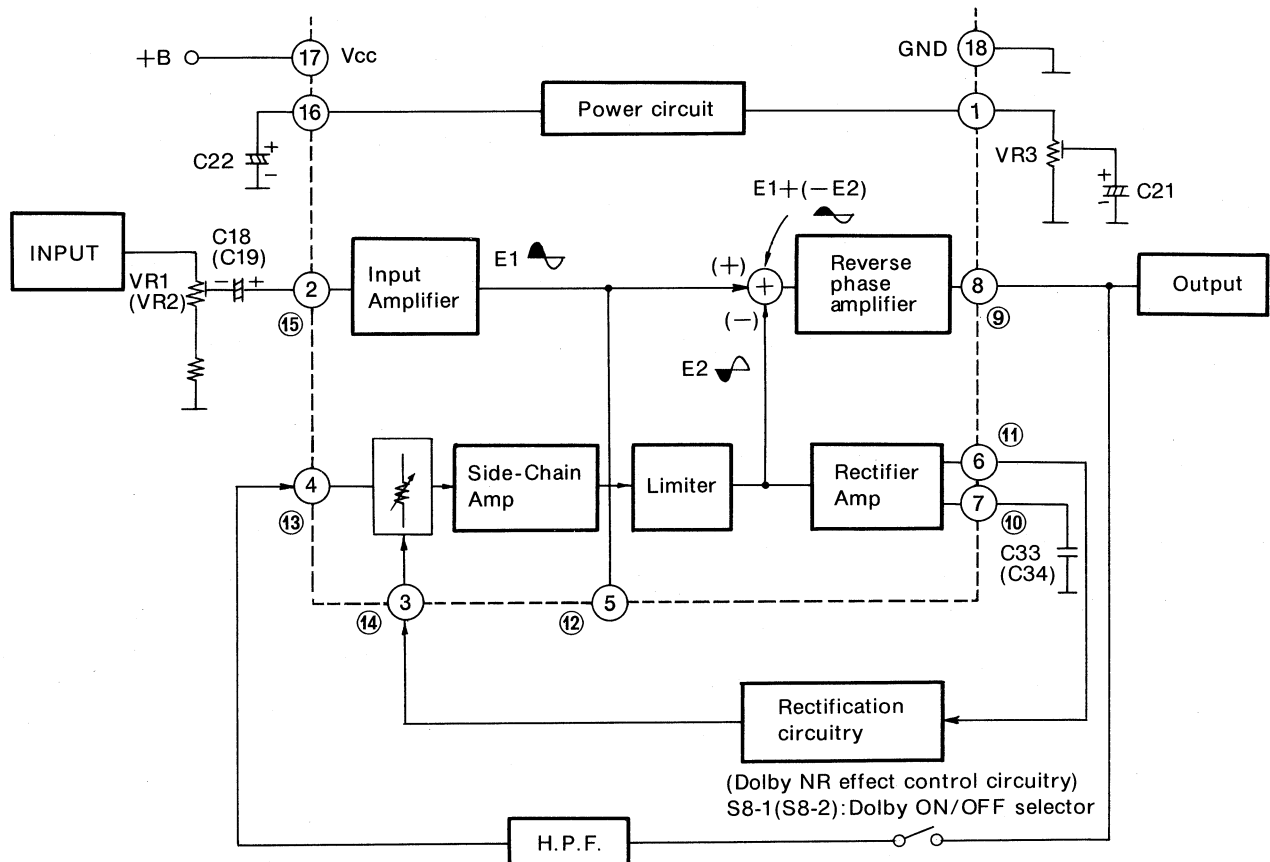

Fig. 35 Block Diagram-IC3 RVIHA11226 (Cassette Deck)
6. When Q9 (Q10) is ON, the electrolytic capacitor is connected in parallel with C207 (C208), and this becomes the circuit shown in Fig. 35 (B).